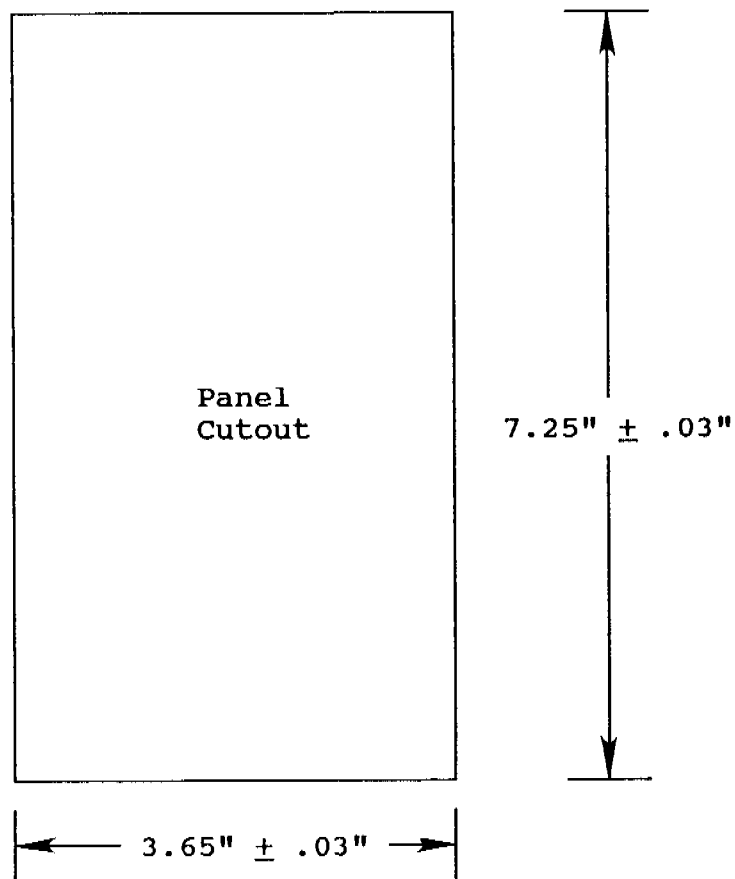

Figure 3-2: Panel Cutout Dimensions
2. Determine the appropriate door or panel location and make the panel cutout per Figure 3-2 below.